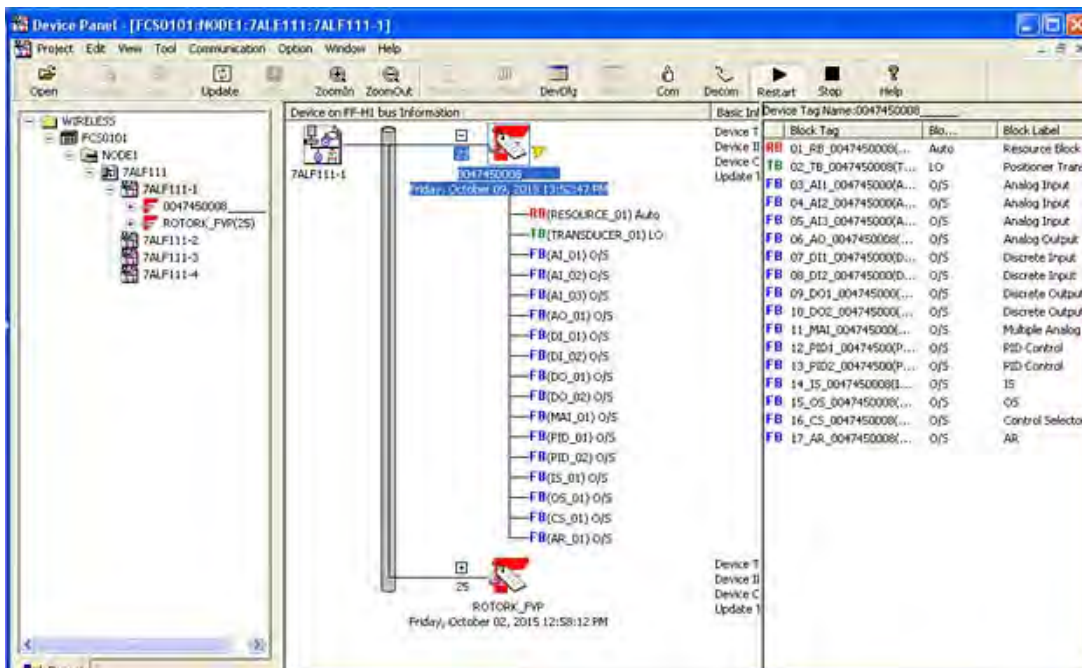

Figure 87 Device Addresses
2. Click on the plus sign above the device address that appears in the list of device blocks and their mode (Figure 87).